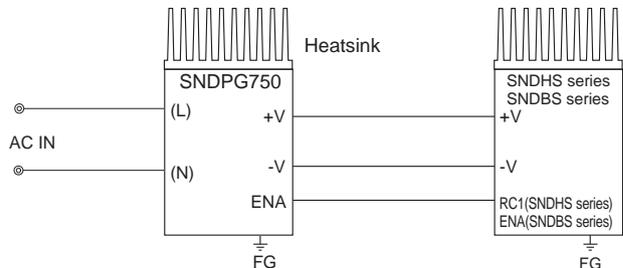

Fig.3.1 Standard connection method
■To use SNDPG Series, connection shown in Fig.3.1. Through this connection, DC output voltage can be obtained from AC input voltage. AC input voltage and DC output voltage are not insulated.
■For connecting the SNDHS series (SNDHS50B / 100B / 250B) and SNDBS series, see Fig.3.1.